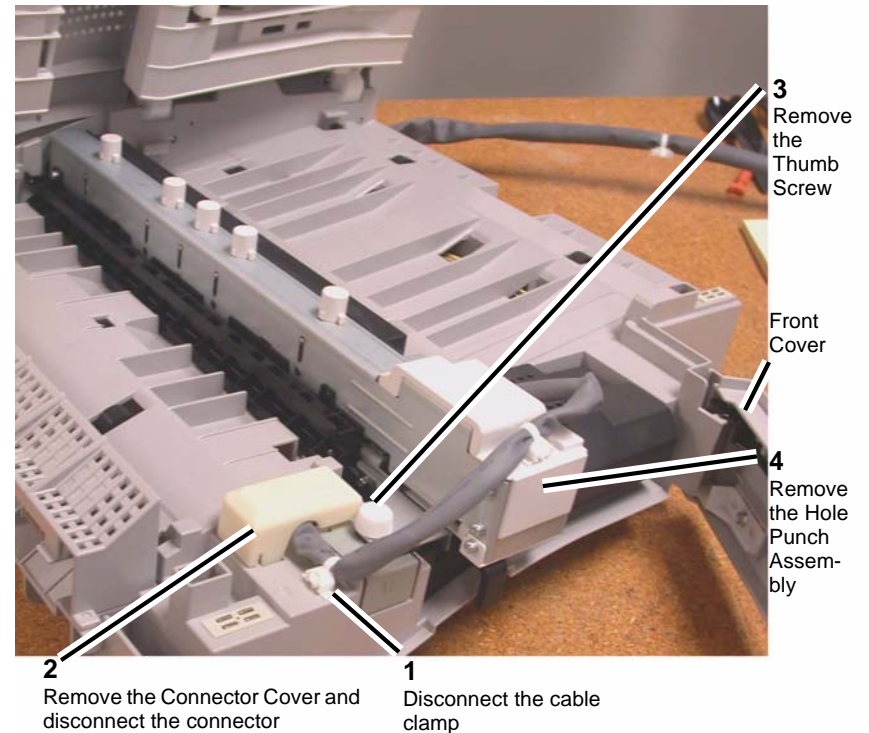

Figure 1 Removing the Hole Punch Assembly
5. Remove the Hole Punch Assembly (Figure 1).